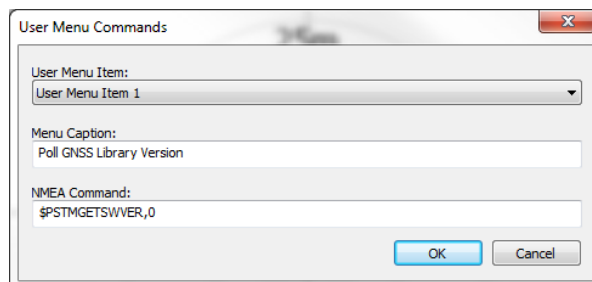

Figure 11 User Menu Command Manager
4. Launch the TESEOII X-Loader and set the selections as shown in Figure 11.